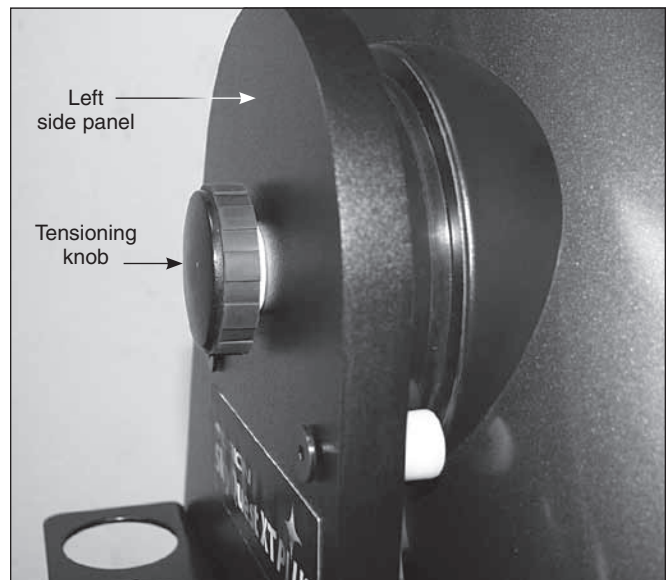

Figure 10. The tensioning knob on the left side panel lets you set and adjust the amount of friction for the altitude motion of the telescope.
3. On the other altitude axis coupling knob place a metal washer on the bolt, then thread on the white plastic washer all the way (**Figure 9**), until it is captive on the smooth portion of the shaft nearest the hand knob. Now insert the bolt through the bushing on the LEFT side panel and use the knob to thread it into the left side bearing on the optical tube assembly. This coupling knob is referred to as the "tensioning knob" (**Figure 10**).
The SkyQuest XT PLUS is held on the Dobsonian base with two altitude axis coupling knobs (**Figure 10**). The one on the right side acts simply as a retaining knob, while the one on the left side is the "tensioning" knob. Turning this knob clockwise pulls the telescope's left side bearing into the left side panel, increasing the friction between the side bearing's fiber ring and the melamine surface of the side panel. The tighter the knob is turned, the greater the friction and the stiffer the tube will become to move up and down. Ideally you'll want to set the tension such that the tube moves relatively freely, so that you can "track" objects smoothly by moving it in small increments while viewing through the eyepiece.